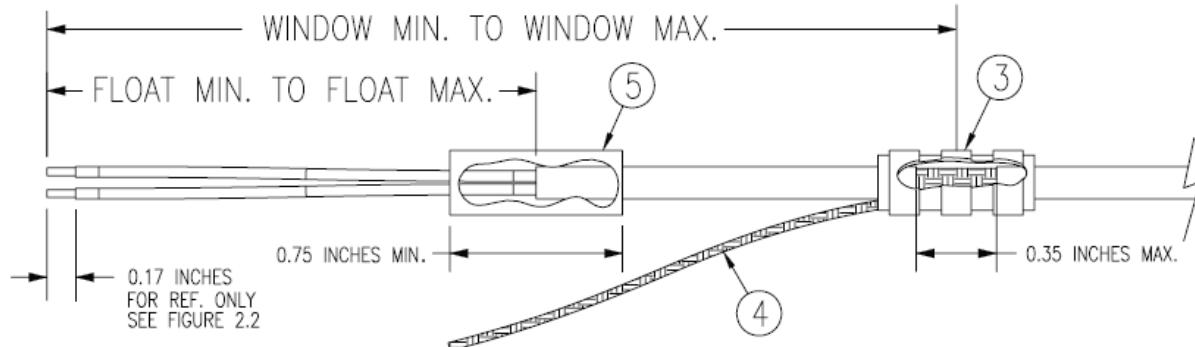

Figure 16-6 Method A.1 for Shield Termination
2. At one end of a shielded cable (item 2) measure a distance between “Window Min” to “Window Max” (Table 16-6) and cut a window (max size 0.35”) in the jacket to expose the shield (Figure 16-6). Use caution when cutting the jacket to avoid damaging the individual braids of the shield. When dealing with a densely populated connector with many cables, it may prove beneficial to stagger the windows throughout the “Window Min” to “Window Max” range. If staggering is not needed the “Ideal Window” length is recommended.
3. Connect a Flat Braid (item 4) to the shield exposed through the window of the prepared cable assembly (item 2) from step 2. The Flat Braid should go out the front of the termination towards the connector. It is not permitted to exit the rear of the termination and loop back towards the connector (Figure 16-6). Make this connection using an approved shield termination technique.
4. At the same end of the shielded cable (item 2) and ahead of the previous shield termination, strip back "Float Min" to "Float Max" (Table 16-6) length of jacket and shield to expose the insulated center conductors (Figure 16-6). The "Ideal Float" length may be best to build optimally.